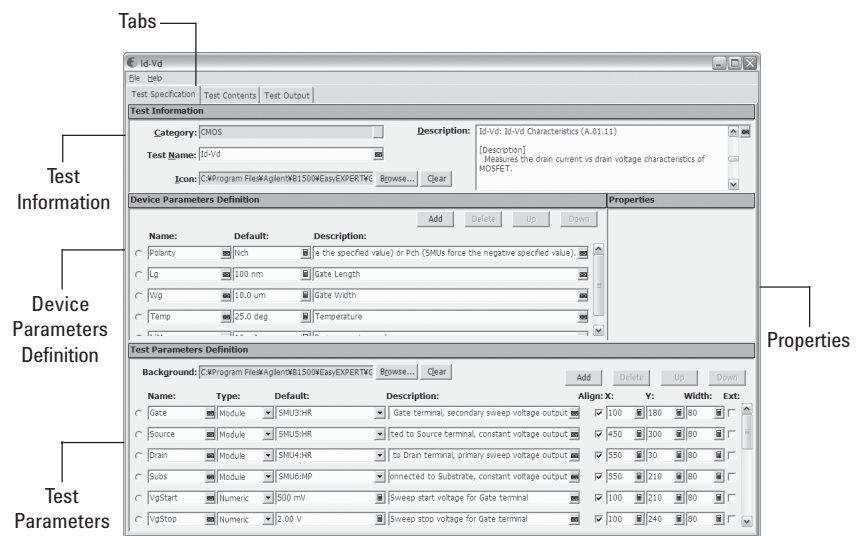

Figure 3. Test Definition window.
3. In the Library pull-down menu, select “Open Definition of This Test...” The test definition window appears, as shown in Figure 3.
In this application note, the Test Specification setup is used as an example. Figure 3 shows the four setup areas under the Test Specification tab.